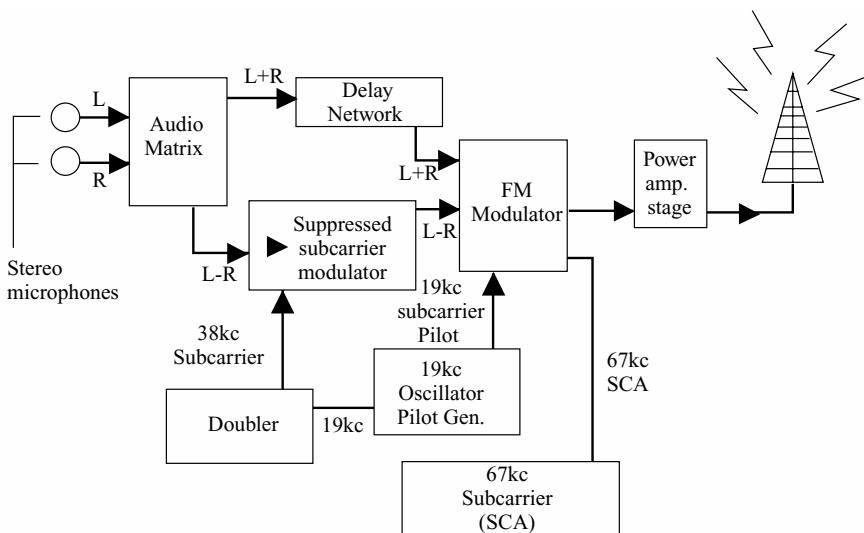

FIGURE 2-1 A block diagram of an FM stereo transmitter.
The two basic components needed for any stereo radio system are the right (R) and left (L) audio channel information. Refer to the basic stereo FM transmitter block diagram in Fig. 2-1. These left and right audio signals are matrixed, resulting in sum information ($L + R$) and difference information ($L - R$). Matrix is something within which something else originates or develops. To obtain sum information ($L + R$), $+R$ was added to L; to obtain the difference information ($L - R$), a negative $-R$ of the same magnitude as the $+R$ (only 180 degrees out of phase) is added to L. Thus, $L - R$, the difference signal, was created. The composite $L + R$ and $L - R$ information is now used as FM modulating components in this system. Normally, the $L + R$ information could immediately FM modulate the carrier. However, to be certain that the $L + R$ information is in the same phase relationship to the $L - R$ information, as they were when they came from the matrix when the FM modulated the carrier, it is necessary to insert a delay network in the $L + R$ channel. The delay system is needed to shift the phase of the $L + R$ modulating component in such a manner that it will be in phase with the $L - R$ upper and lower 38-kHz sidebands when they also FM modulate the carrier.